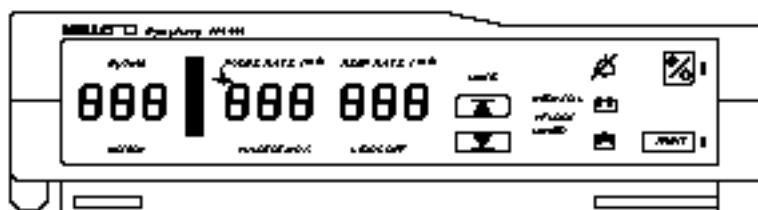

Figure 3-1: Self-Test Display
- b. All indicators light for a few seconds as illustrated in Figure 3-1. Verify that the SpO₂% (left-most display), HEART/PULSE RATE (middle), and RESPIRATION RATE (right) displays all indicate "8.8.8".